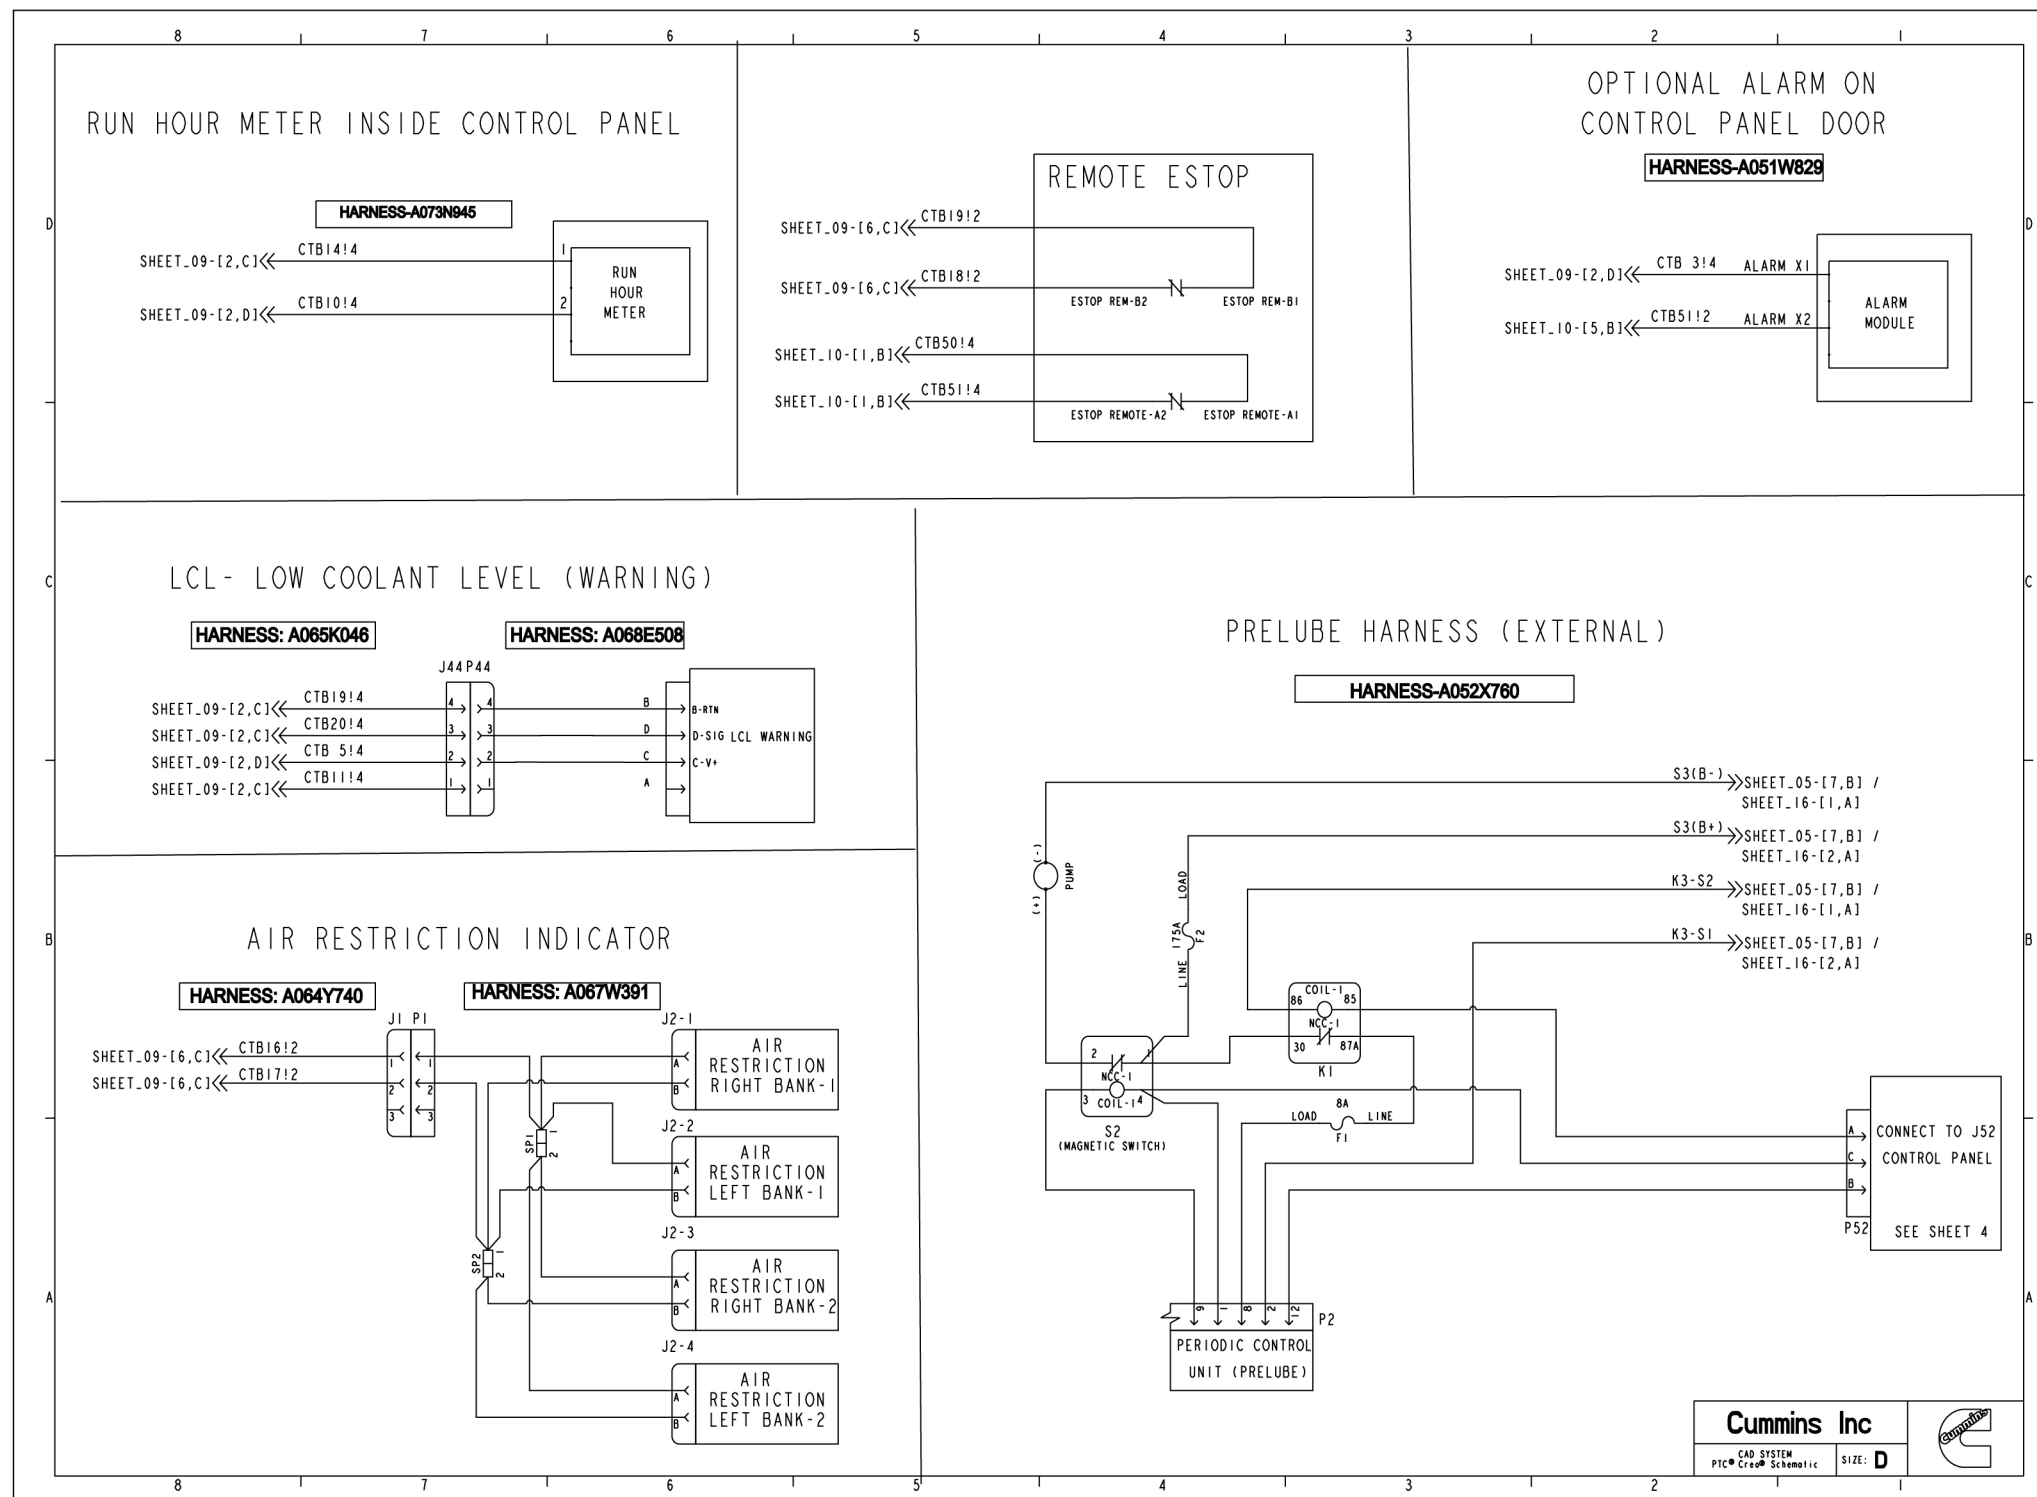

FIGURE 96. WIRING SCHEMATIC (SHEET 12)
- Figure 96. Wiring Schematic (Sheet 12) 400